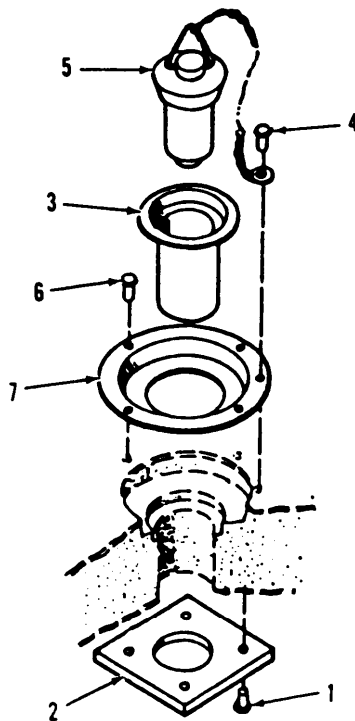

Figure 3-14. Drain Replacement.
a. Inspect. (Figure 3-14)
- (1) Inspect the drain plug (5) for wear, damage, and secure mounting.
- (2) Inspect the drain tube (3) for damage.
- (3) Inspect the pan (7) and plate (2) for damage and secure mounting.